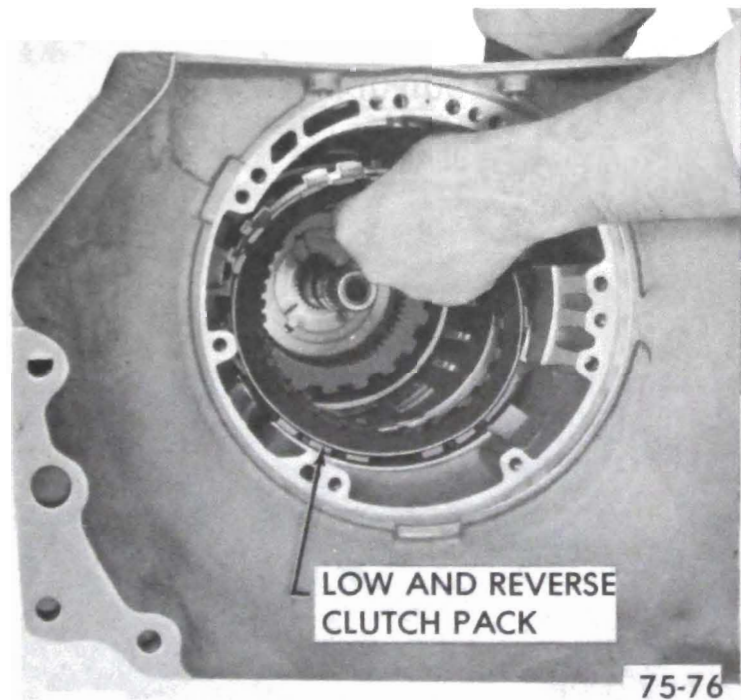

Figure 75-108
1. Remove five (5) low and reverse clutch faced plates and five (5) steel separator plates. See Figure 75-108.